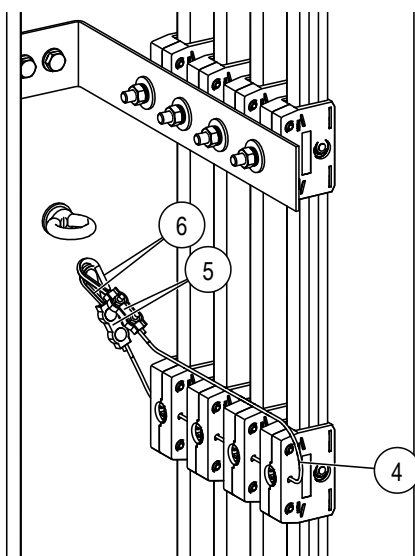

Fig. 42: Fasten thimble (Pos. 6)
- Mount the rope clamp (Pos. 5) using a ratchet (tighten the hexagon nuts of the rope clamps) and pull the thimbles (Pos. 6) into the loops (see Fig. 42).